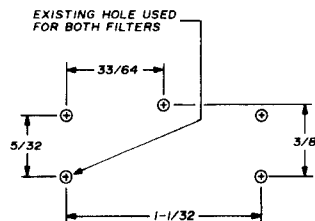

fig. 2. Drilling template for the new narrowband ceramic filter (foil side of board).
fig. 1. Bottom view of the HR-2 series receiver i-f circuit board, showing modifications required before installing the Regency MA-46 modification kit. One circuit trace must be cut in two places. The black dots indicate new holes for the new, narrow-band ceramic filter supplied with the kit of parts. A drilling template is shown in fig. 2.
- b. Perform the modifications shown in **fig. 1** to the i-f circuit board (301-528-B) and drill the holes for the new ceramic filter using the dimensions given in **fig. 2**, using the existing hole indicated to locate the new holes. Earlier models may have two resistors (R133 and R134) soldered to the foil side of the circuit board as shown in **fig. 4**. If R133 and R134 (both 6.8k) are present, remove them as they are no longer required.